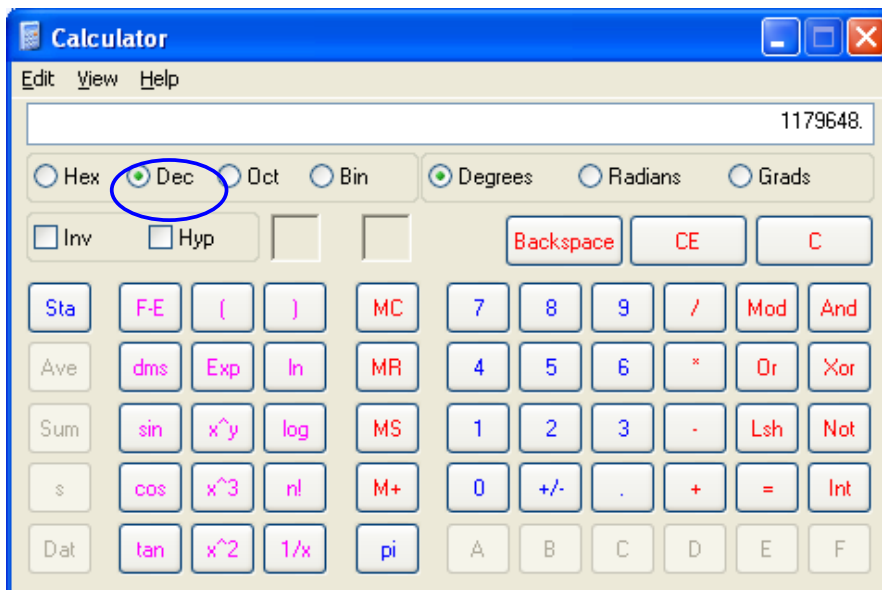

Figure 108
- Open your calculator (View Scientific) and type the number and then select Hex (See Figure 108)